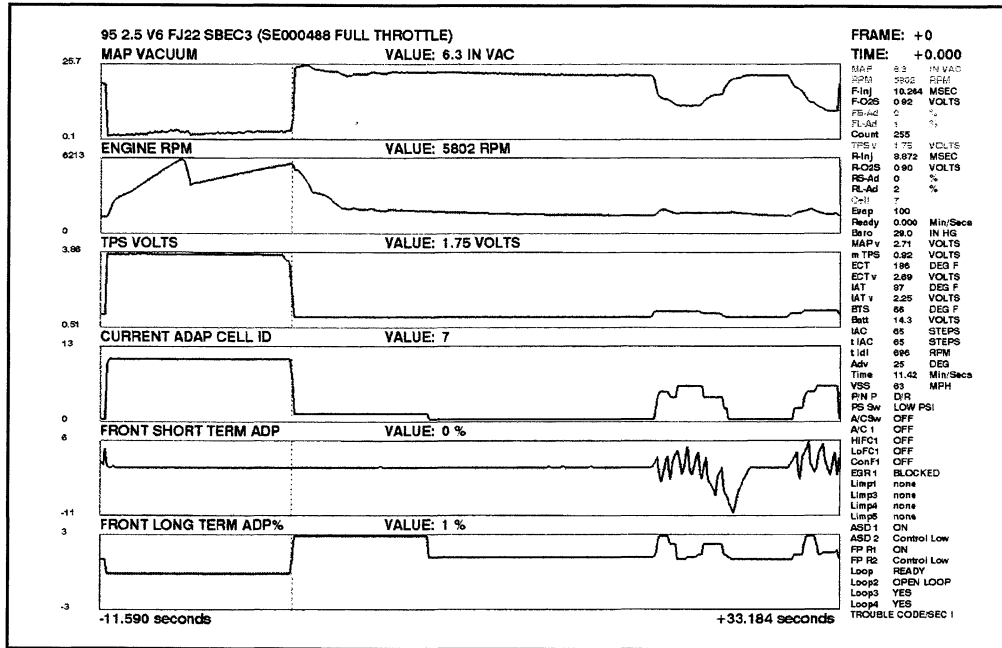

Fig. 17
- PCM Data - Adaptive Memories (Figures 17 & 18)